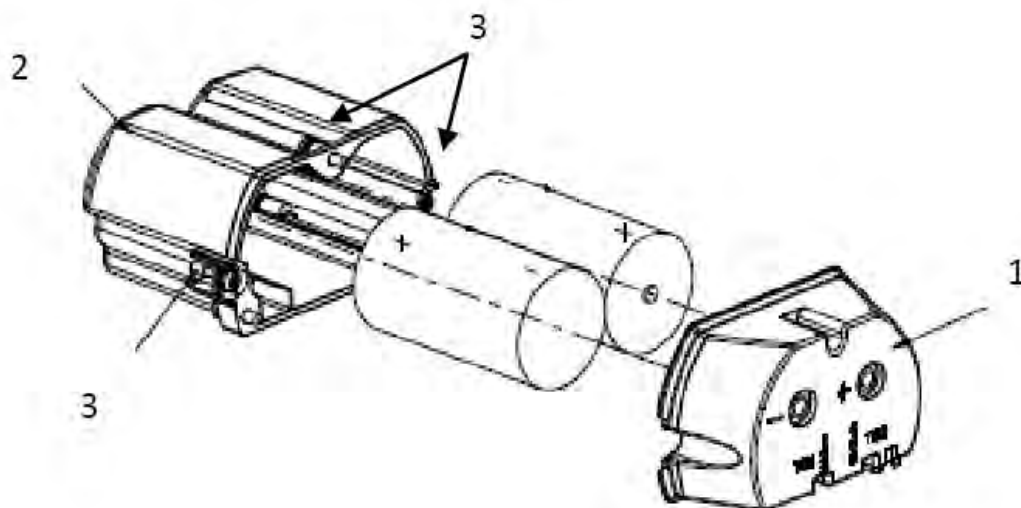

Figure 6-3: IS Battery Pack
- 6 Remove top of battery pack by using a #1 Philips or 1/8" slotted screwdriver for the screws identified as #3 in Figure 6-3.
- 10 Insert the Battery pack into the transmitter. Reattach the screws as indicated in Figure 6-3, item 3, to 0.4 to 0.6 N-M (3.5 – 5.3 Lb-in).